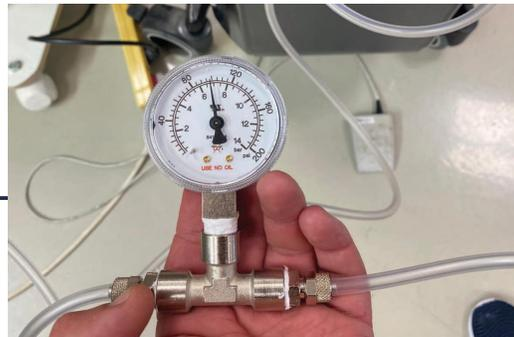

Figure 3
Check pressure **(Figure 3)**. If low pressure or knocking noise, change compressor
Drainage valve / Main valve	<p>Connect pressure gauge to the connector in front of the device and then to the handpiece (Figure 3). Check air pressure – it should be between 5.9-7.2 bar (86-104 psi). If lower, check drainage valve (1) or main valve and replace if necessary</p>